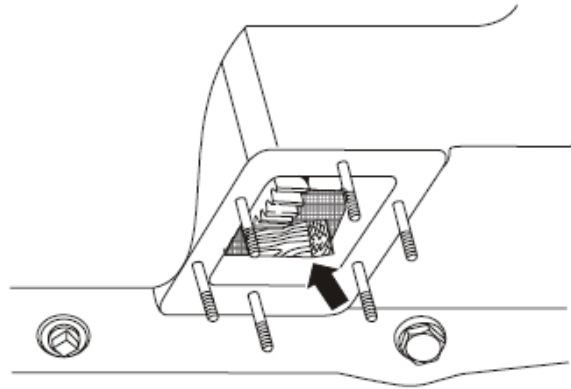

Figure 4 Wedge Location
- b. Insert a wooden wedge between the transmission PTO drive gear and the transmission housing (Fig 4).